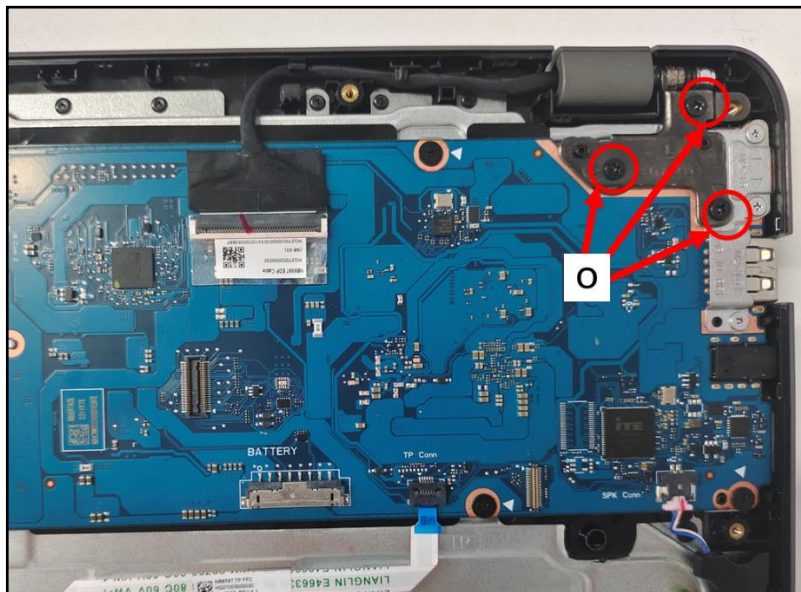

Figure 3-90. Replacing the Mainboard
18. Install three (3) screws (O) to secure the left LCD hinge in place (Figure 3-90).